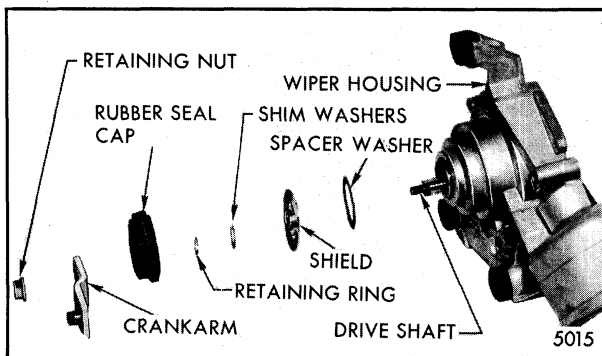

Fig. 2-42-Crank Arm Components - Exploded View
3. Remove crank arm, rubber seal cap, retaining ring, shim washers, shield and spacer washer in the order indicated (Fig. 2-42).
7. Reassemble the outer spacer washer, shield, shim washers as required to obtain .004" (plus or minus .002") end play, snap ring and rubber seal cap in the order indicated. Refer to Figure 2-42.
Add or remove shim washers as required to obtain .004" (plus or minus .002") end play (Fig. 2-42).